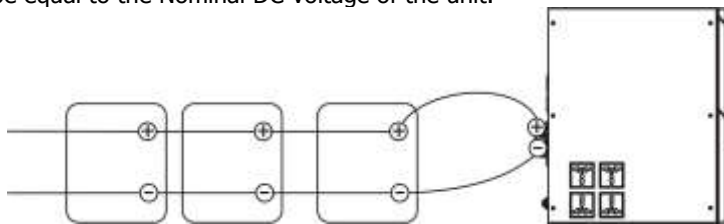

Fig 4
**3) Multiple batteries in parallel connection(Refer to Fig. 4):** Each battery's voltage must be equal to the Nominal DC Voltage of the unit.